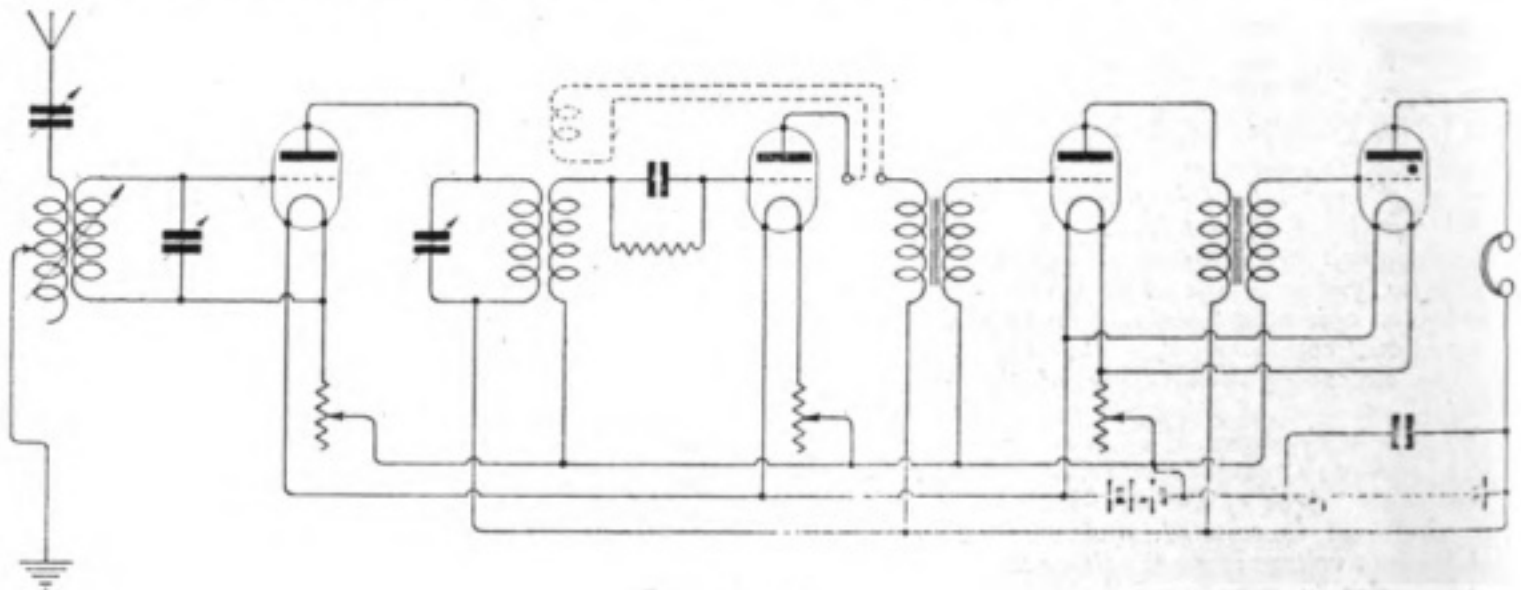

Fig. 2.
(1) See diagram Fig. 2. (2) Yes. (3) For short wave work the aerial tuning condenser need not have a larger value than 0.0005 mfd., but for long wave work a value up to 0.002 mfd. may be found convenient. For tuning direction coil or closed circuit, a suitable value is 0.0005 mfd. (4) The use of reaction is recommended, as shown in the circuit diagram.